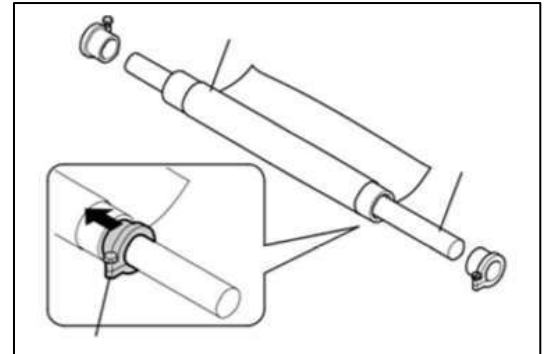

Fig 15: Inserting the Fabric Roll into to Supply Core
Step 1: Keep the well pressed and pre-treated fabric roll winded into the empty core of diameter 65-70mm (Refer to Fig 15).
Step 2: Insert the supply roller into the core of the fabric roll (Refer to Fig 15).